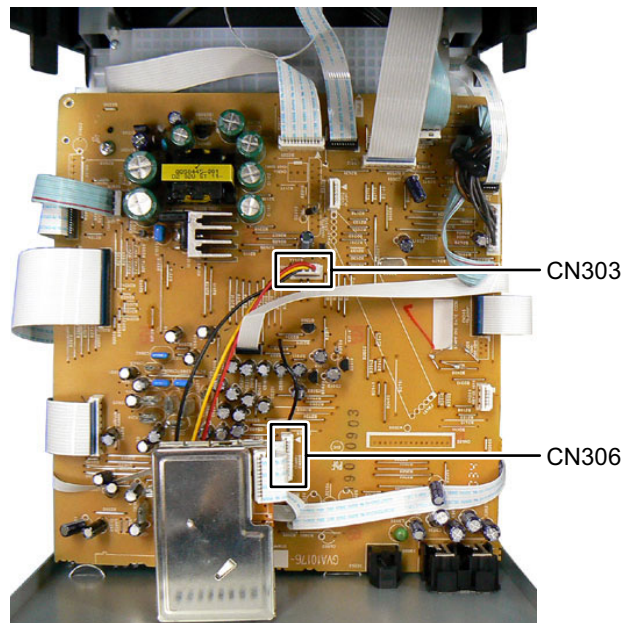

Fig.4
3.1.2 Removing the Rear panel (See Fig.4, 5)
- (1) Disconnect the card wire from Tuner pack connected to connector **CN306** of the Main board. (See Fig.4)
- (2) Disconnect the connector wire from FAN connected to connector **CN303** of the Main board. (See Fig.4)
- (4) Solder the solder part of DVD pickup. (See Fig.4)